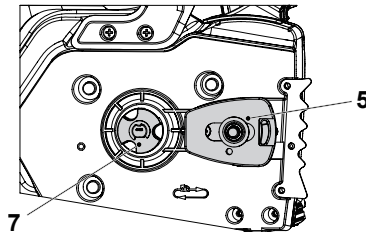

Fig. 39
1. Disassemble the guide bar (9) and saw chain (8) in reversed order from assembly.
2. Check the oiling port (5) for clogging and clean if necessary to ensure proper lubrication of the guide bar and saw chain during operation. Use a soft wire small enough to insert into the oil discharge hole (Fig. 39).